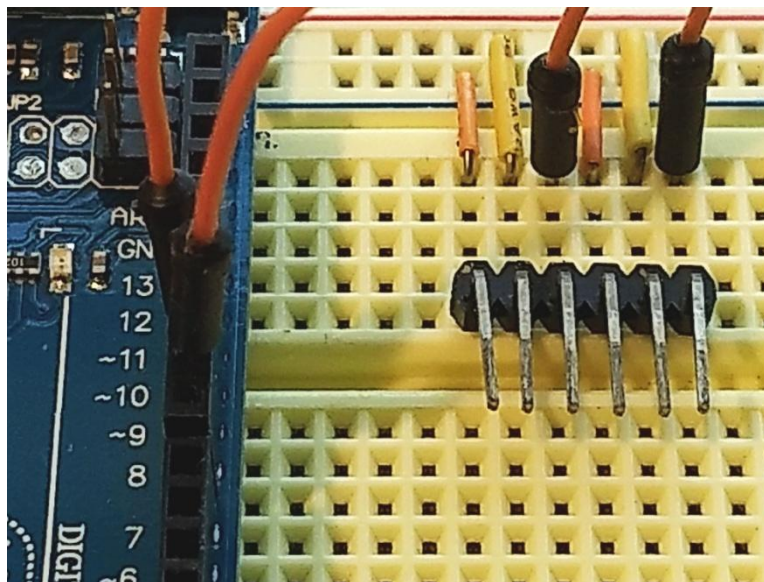

Figure 12. Adding six-prong bent connector.
3. Insert a bent six-prong connector into the XBoard, as shown in Figure 12.